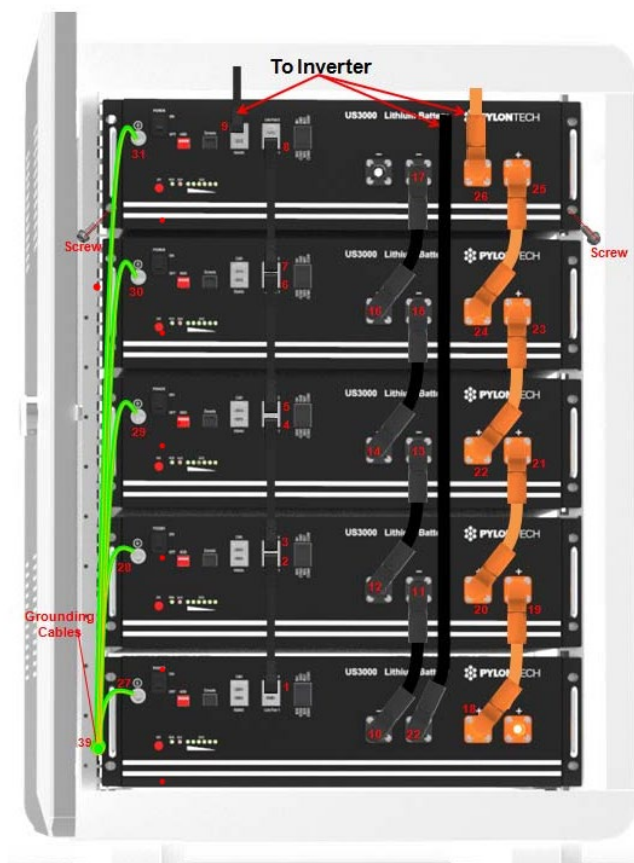

Figure 18: Pylontech cable connections
- Battery and communication cable connections (e.g. Figure 18: Pylontech cable connections);